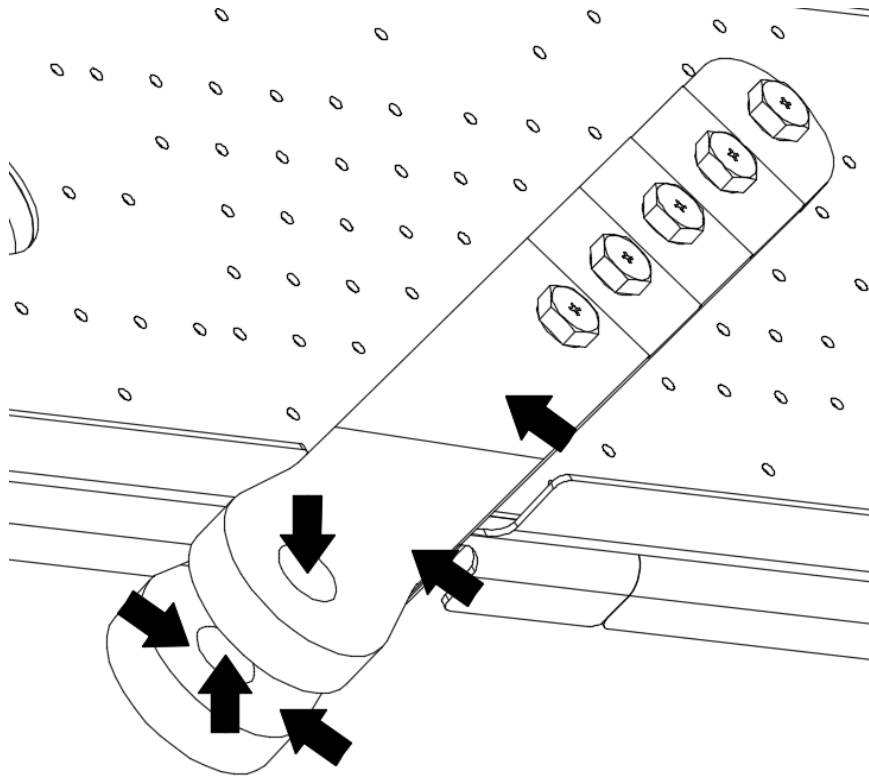

Figure 4 – Inspection areas in Strut Fittings (Forward and Aft)
1. Clean wing Forward and Aft Strut Fittings attached to the wing identified in Figure 4 using a cleaning solvent or airframe cleaning compound.